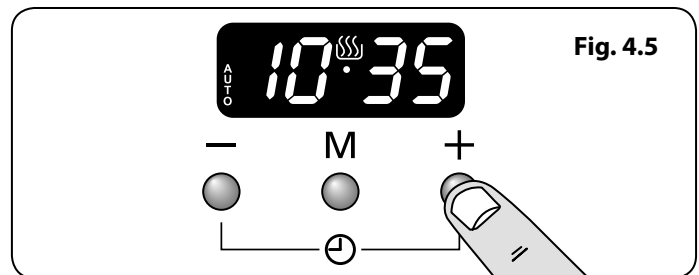

Fig. 4.5
2. Select the 'stop time' using the [+] or [-] buttons. The display will show the current time along with the 'AUTO' and Cooking [🔥] symbols **(Fig. 4.5)**.